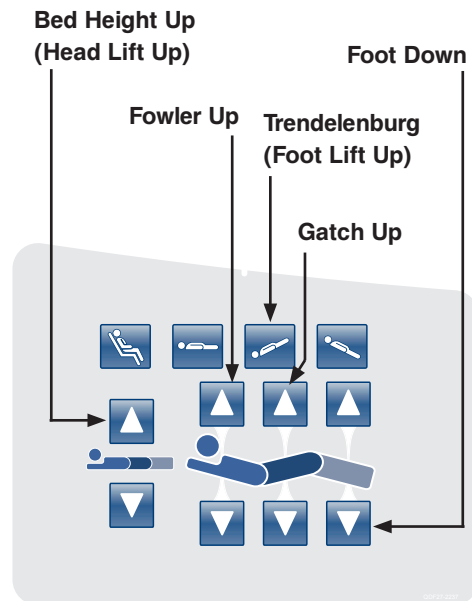

Figure 24: Head Siderail Control Panel - (Right Side Shown)
26. Place the bed at the highest height by pressing simultaneously the **Trendelenburg (Foot Lift Up)** button and **Bed Height Up (Head Lift Up)** button (see Figure 24).
27. Place the Fowler and Gatch section of the bed at the highest height by first pressing the **Fowler Up** button then the **Gatch Up** button (See Figure 24).
28. Place the foot at the lowest position by pushing the **Foot Down** button until limit is met (see Figure 24) . **CAUTION: The Gatch must be raised to the highest height prior to running the Foot Down or damage could occur.**